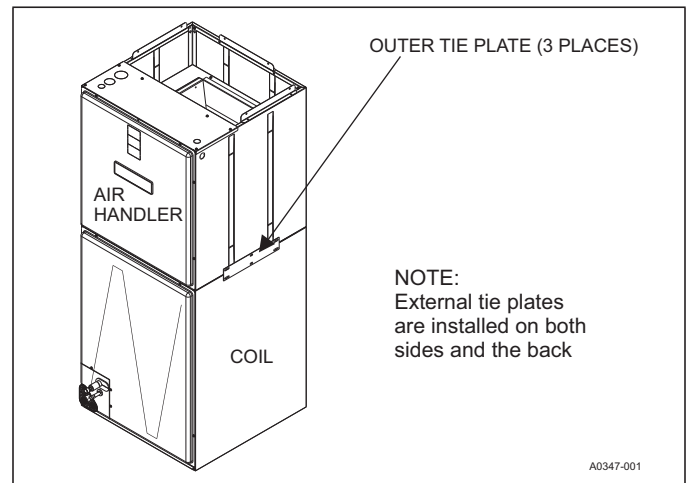

FIGURE 3: Coil and Air Handler Attachment Details
2. Attach three tie plates to the external sides and back of the air handler casing using screws. See Figure 3.
4. Attach the three tie plates to the coil casing using screws. See Figure 3.